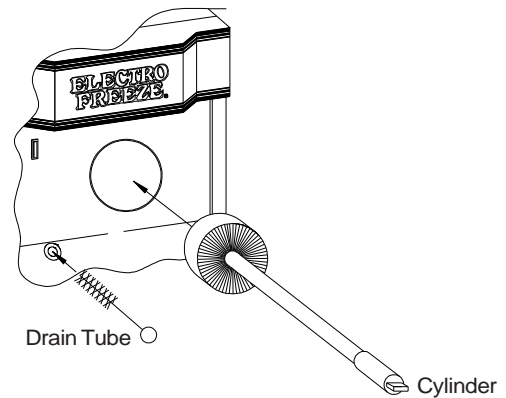

Figure 6-10 Clean drain tube and cylinder
4. Wash hopper walls and all soiled surfaces on the freezer with a clean disposable towel. Using proper brush, brush the hopper inlet tube (figure 6-9), the cylinder and cylinder back wall (figure 6-10) thoroughly. Rinse using rinse bottle. Using sanitizing solution, repeat brushing and rinsing procedure making sure all surfaces contact sanitizer.
5. Brush the inside of the drain tube with sanitizing solution and rinse, as shown in figure 6-10.